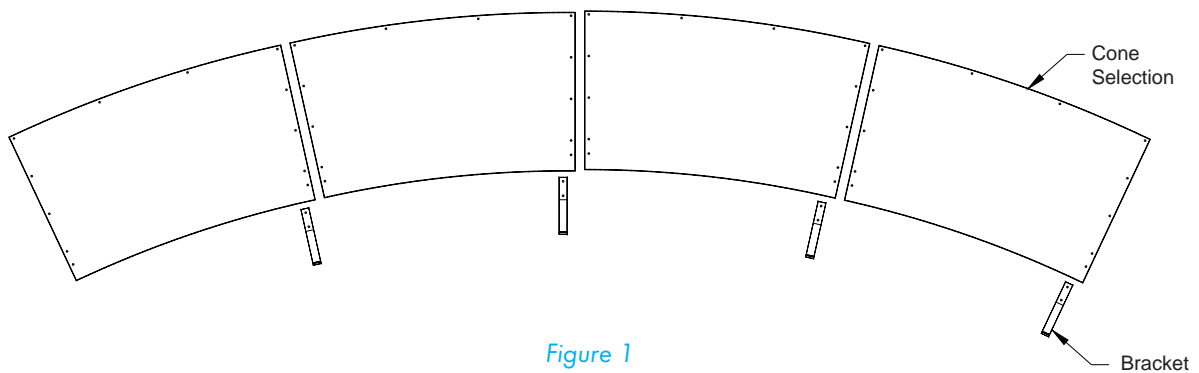

Figure 1
Place all (4) cone sections on a flat surface. *See Figure 1.* Place (1) support bracket at each joint.